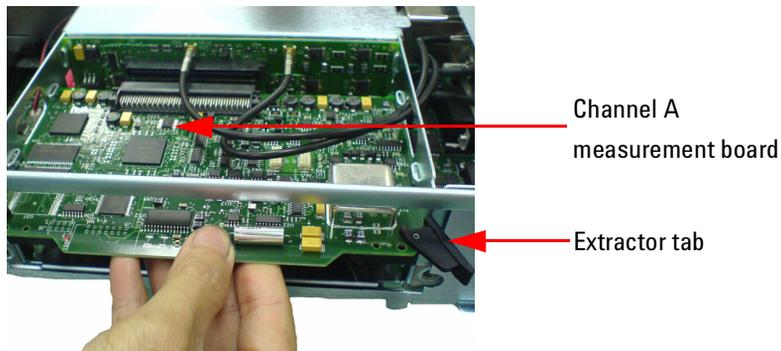

Figure 1-3 Removing Channel A measurement board
- 8 Slide the measurement board out from the side of the power meter. See Figure 1-3.